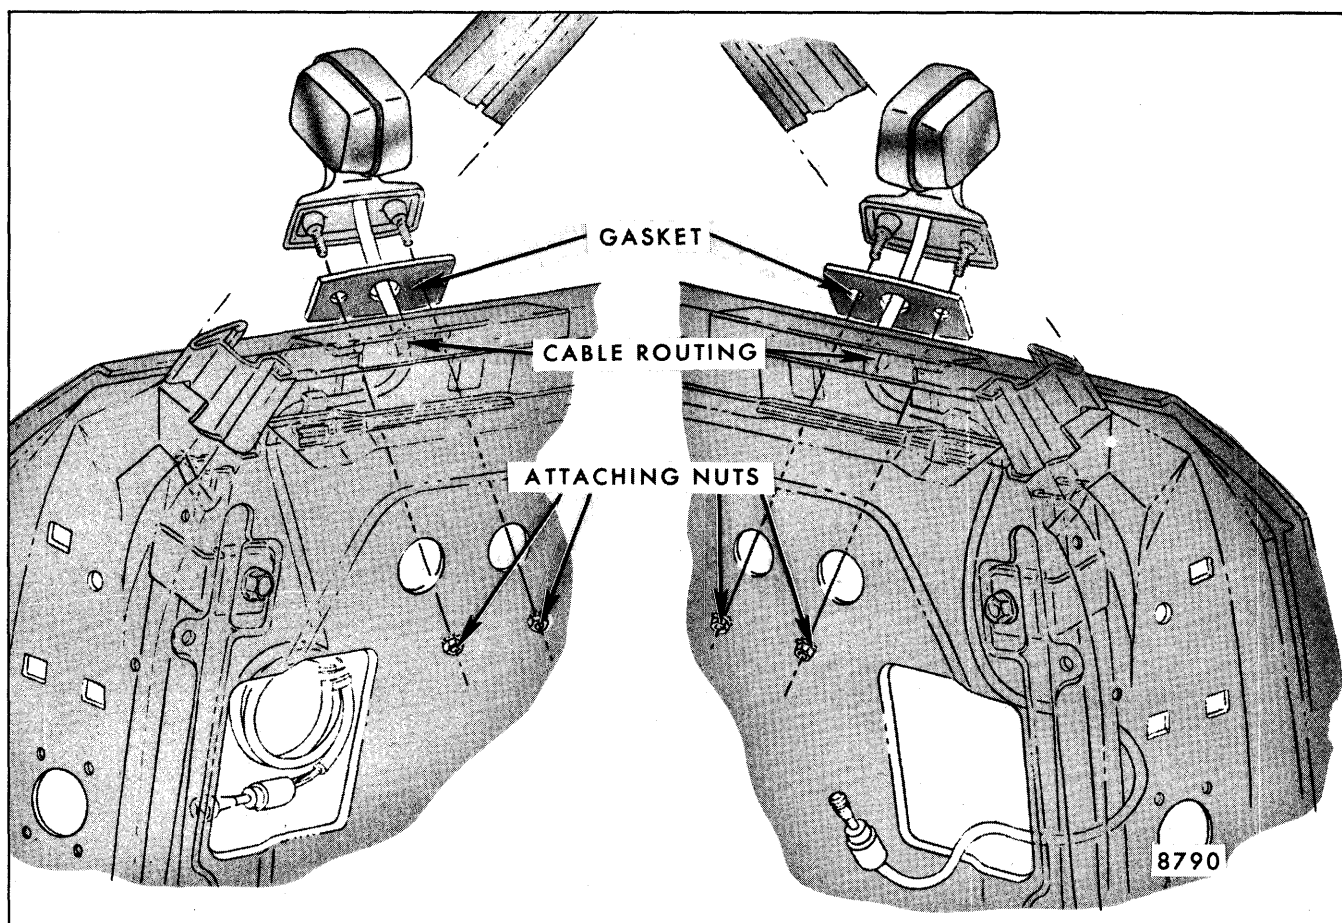

Fig. 5-32-Door Outside Mirrors, Right and Left Side
1. Remove door trim panel assembly, door insulator and inner panel water deflector as previously described in this section of manual. Then, detach remote cable from retaining tab on outer panel belt reinforcement (Fig. 5-32).
2. Remove mirror base to door outer panel stud nuts (Fig. 5-32) and remove mirror and cable assembly from door.
3. Remove mirror base to door outer panel stud nuts (Fig. 5-32) and remove mirror and cable assembly from door.